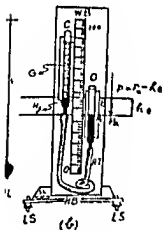

Fig 3-2
6. Then slide the tube O in such a way that the mercury level in O is lower than that of C and in these cases the gas pressure is less than that of atmosphere as shown in the fig. 3-2. Take down at least six readings when the gas pressure is less than the atmospheric pressure. In these cases the gas pressure $P < \text{atmospheric pressure } P_a$ h .